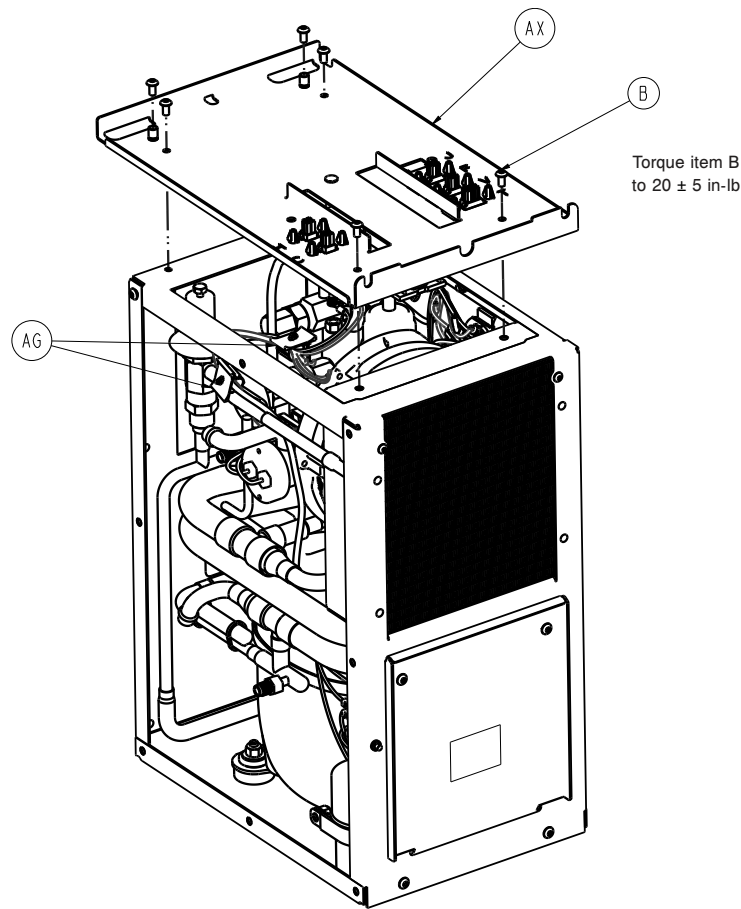

Figure 23 – Top bracket
15. Using a T25 torx, remove and save the four screws (B) that secure the top bracket (AX) to thermal unit (Figure 23).